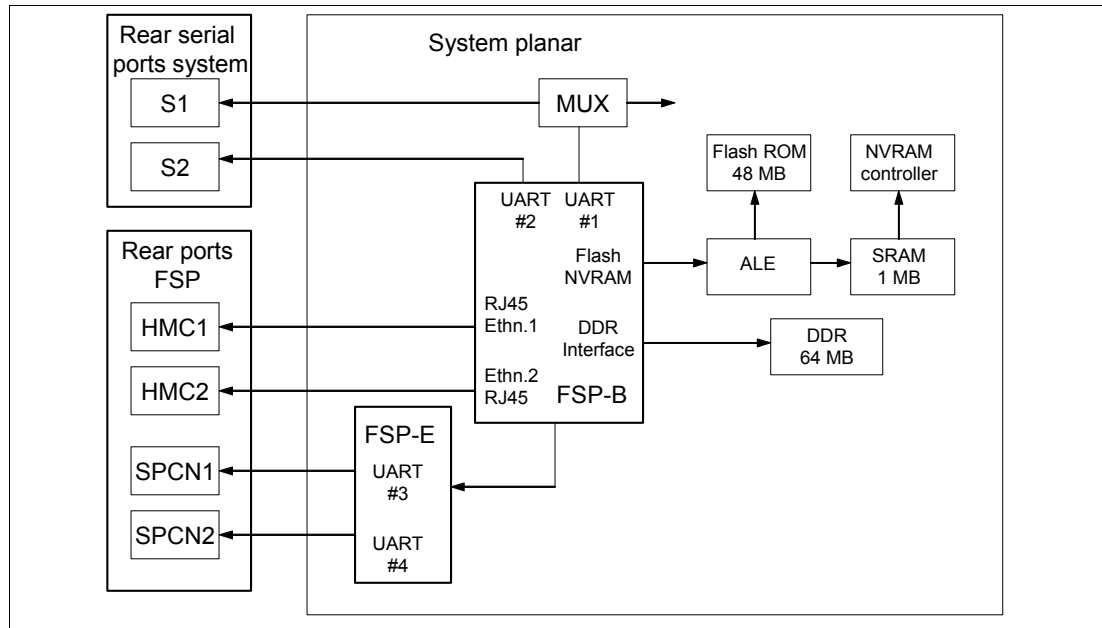

Figure 2-13 Service processor logical diagram
The service processor (SP) is an embedded controller based on a PowerPC 405GP processor (PPC405) implementation running the SP internal operating system. The SP operating system contains specific programs and device drivers for the SP hardware (Figure 2-13 on page 36).